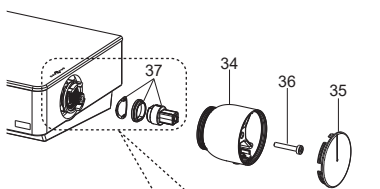

Fig.6
不要转动温控阀轴，将齿套组件(37)上的指示线对准塑料套上的指示线装入。安装温控把手(34)，使温控把手上的按钮垂直朝下。用螺丝刀锁紧螺钉(36)，安装把手上盖(35)(Fig.6)。
Do not turn the cartridge spindle. Install the adapter spline kit(37). Ensure the indicator line on the adapter spline aligns with the indicator line on the stopper. Install the temperature handle(34). Make sure the button on the temperature handle is downward vertically. Tighten the screw(36) with a screwdriver. Install the plug(35)(Fig.6).